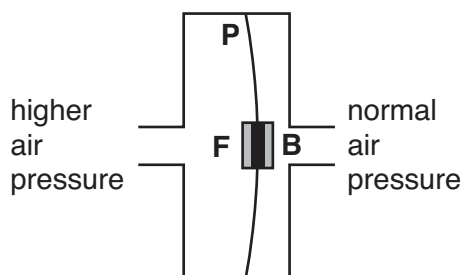

Fig. 11.1
- 11 Fig. 11.1 shows a pressure gauge. A pressure difference curves a thin metal plate **P**. Identical strain gauge resistors **F** and **B** are glued to the front and back of plate **P**. As plate **P** curves resistor **F** is compressed and resistor **B** is stretched.
- (ii) A pressure difference now curves plate **P** as shown in Fig. 11.1. When the plate **P** curves, the p.d. across resistor **B** increases, but the current calculated in (i) remains the same.